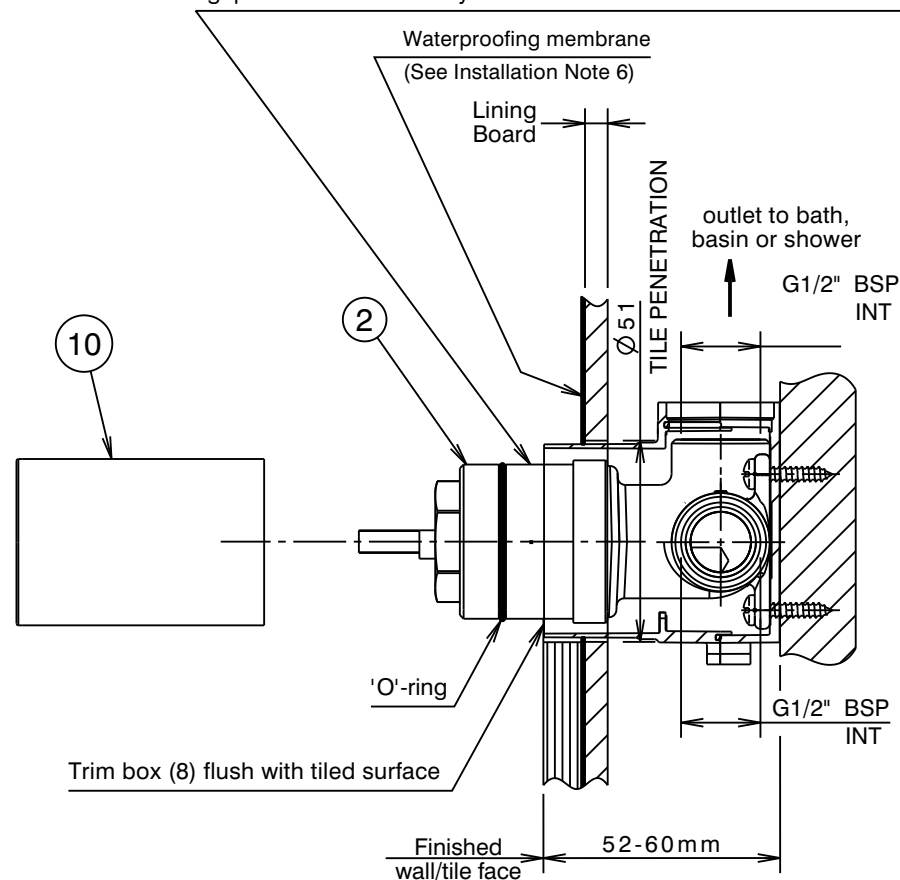

Fig. 3
- 6) After the wall is installed, seal the wall penetration between the lining board and the box (see fig 3.) and apply a waterproof membrane to the manufacturers specifications. **Important:** Sealant/waterproofing materials must remain clear of the rigid protective sleeve (10) and the surface it protects to allow for removal of the sleeve and installation of the trim components.
- 7) Cut box (8) back with a sharp box cutter so the tubular section is flush with the tiled surface. Seal any gap between the box tubular section and the tiles. Ensure the rigid clear protective sleeve (10) is in still in place so the mixer body is not damaged by the box cutter